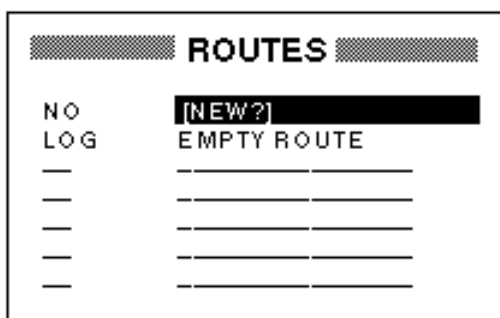

Figure 4-6 ROUTES list
- Press the [ENT] key. The screen shown in Figure 4-6 appears.